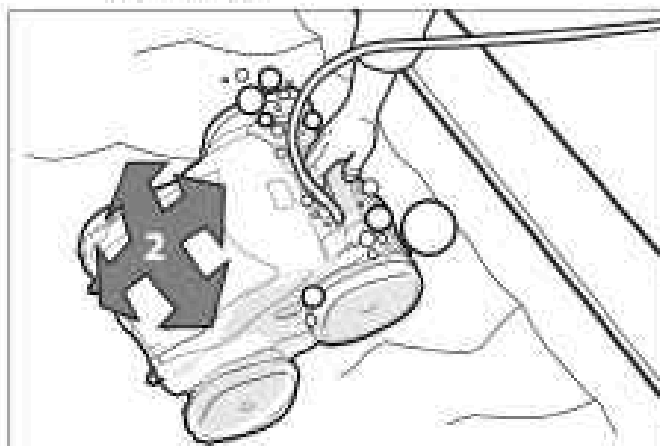

Figure 13. Cleaner Sinking to the Bottom of the Pool
3. Ensure the unit sinks to the bottom of the pool and does not float. (Figure 13).